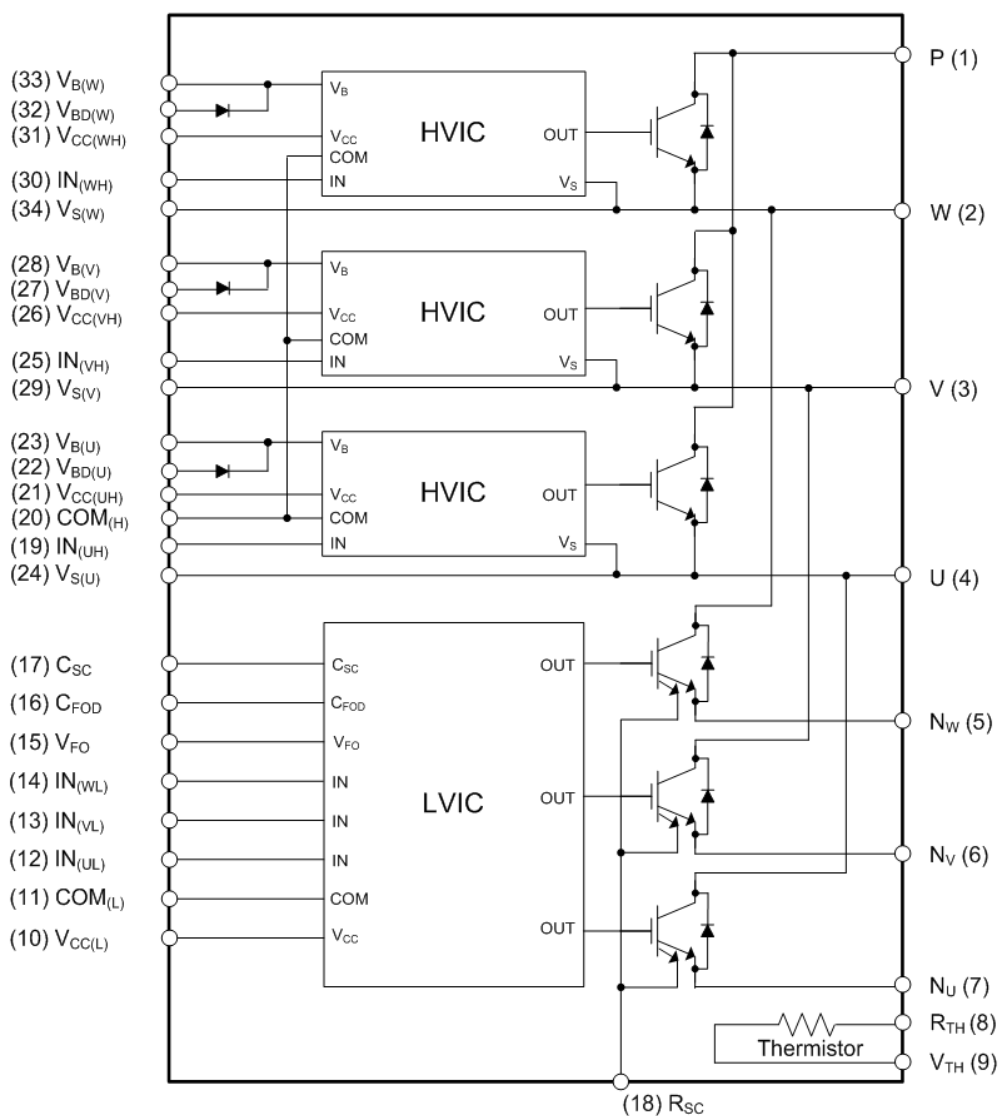

Figure 3. Internal Block Diagram
- 600 V - 75 A IGBT inverter for three-phase DC / AC power conversion (refer to Figure 3)